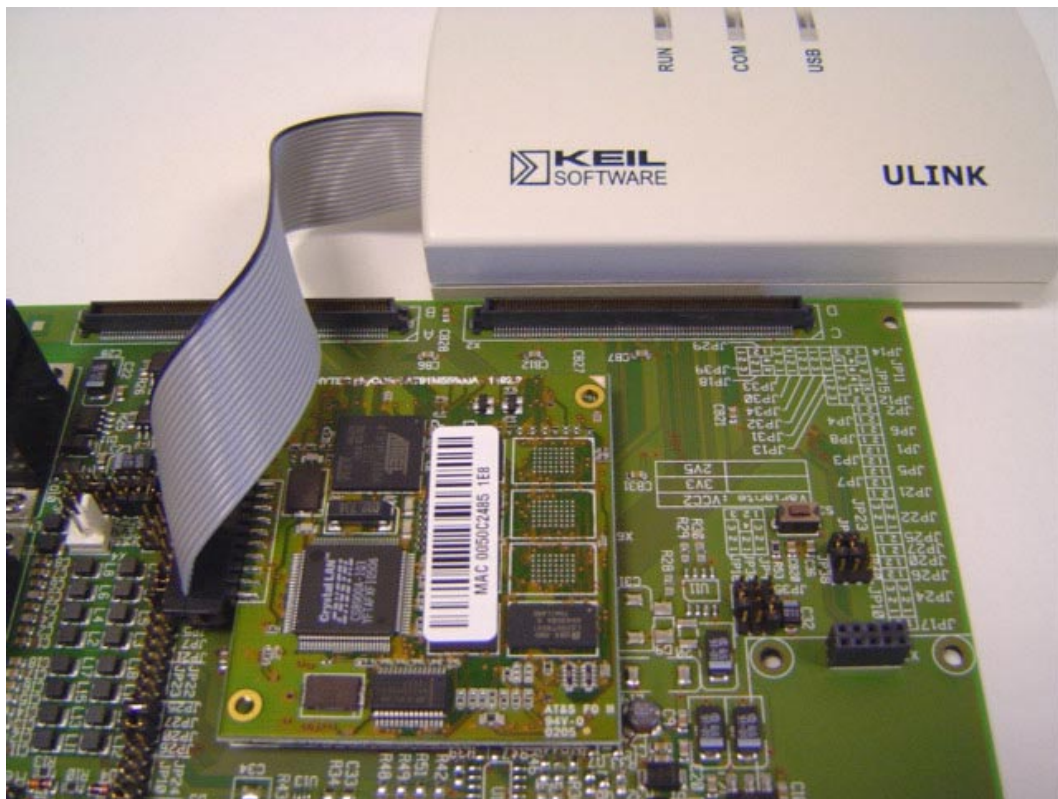

Figure 3: ULINK and JA-002 Connected to the phyCORE Module
- Mount the phyCORE module onto the Development Board's receptacle footprint (X6) as shown in Figure 3 below. Ensure that pin 1 of the module, designated by the hash stencil mark, matches pin 1 of the receptacle on the Development Board.